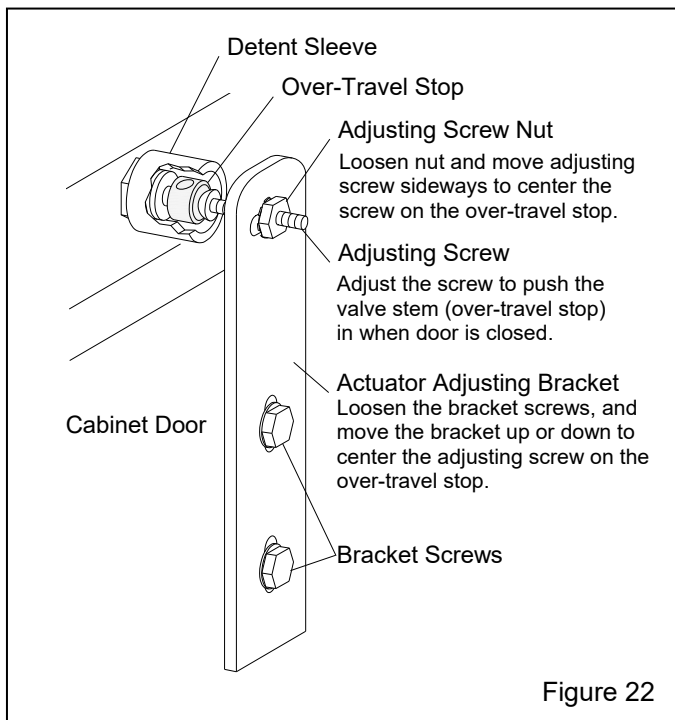

Figure 22
**5.6 Door Interlocks – Figure 22**